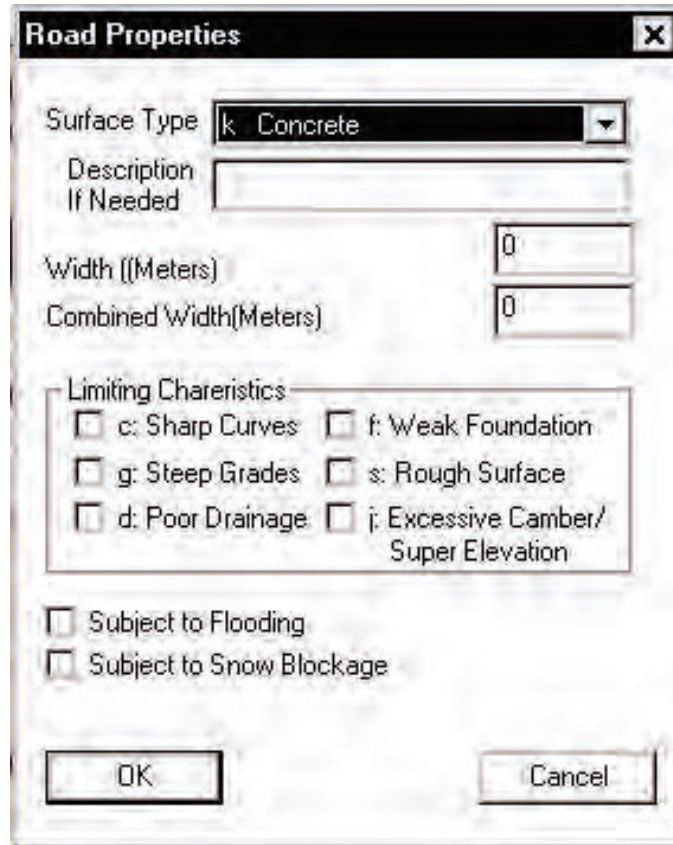

Figure 50. Road properties window
6. Press "ATT" on the toolbar to edit road segment information. A "Road Properties" window will be displayed as shown in Figure 50.